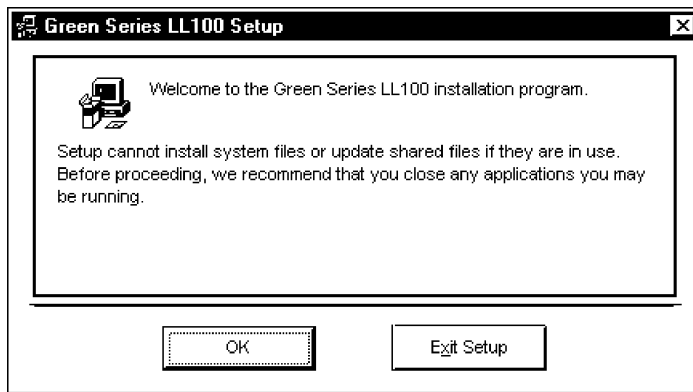

Figure 2.1.2 Green Series LL100 Setup Dialog Box
- (5) When installation is ready to proceed, the setup wizard starts and the Green Series LL100 Setup dialog box shown in Figure 2.1.2 appears.